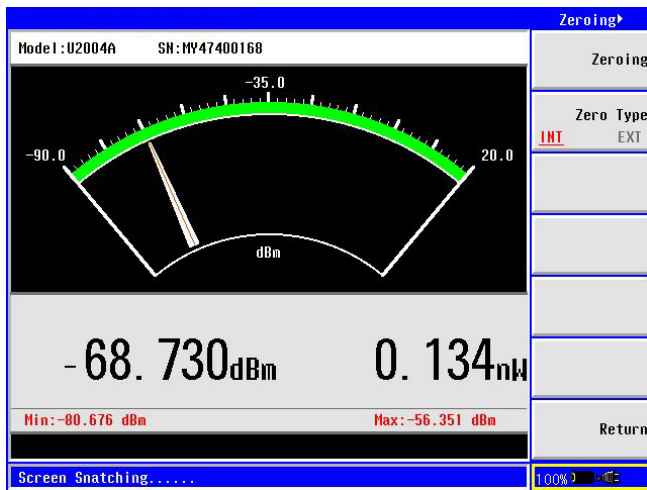

Figure 15. External and internal zeroing are performed to reduce the zero offset and noise impact in order to measure power accurately
3. Press {Zeroing ►} to perform the internal or external zeroing if necessary (see Figure 15).